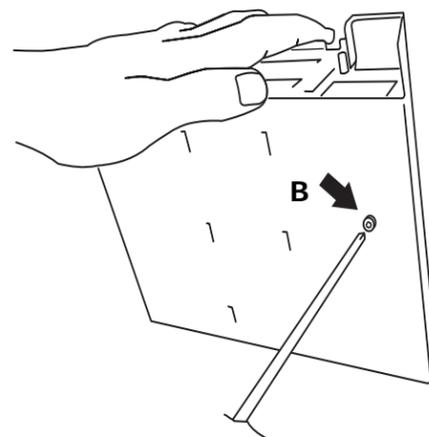

Figure 2.2 Remove securing screw
2. At the rear of the unit, remove securing screw B (figure 2.2), and retain for use in re-assembly.